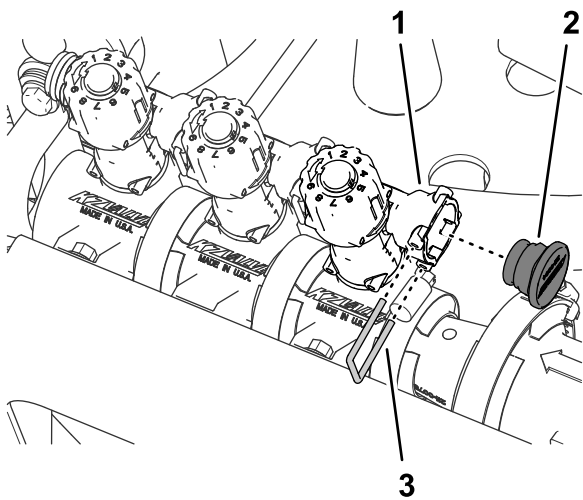

**Figure 66**
4. Remove the 3 retainers that secure the 3 bypass valves to the left, center, and right section valves (Figure 66).
5. Lift the bypass valves from the section valves (Figure 66).
6. Rotate the bypass valves 180° and assemble them onto the quick disconnect fittings of the section valves (Figure 66).
7. Secure the 3 bypass valves to the section valves with the 3 retainers that you removed in step 4 (Figure 66).